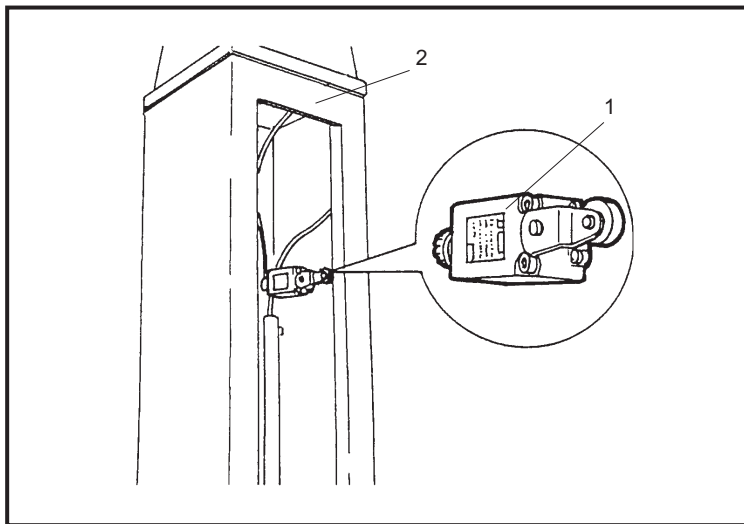

Fig.25
- If the movable part of the lift should go in overstroke, there is an electric limit switch (1) in the control post and a steel locking plate (2) on the top of all four posts (fig.25).